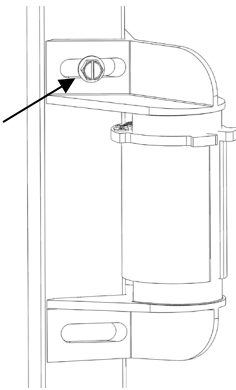

Fig. 1.3
- d. Using the provided sheet metal screws and a 5/16" nut driver, or flat head screwdriver attach the GTUs to the frame of the generator securely. (Fig. 1.3)
- f. Figure 1.3 Shows the GTU installed to a square tube frame with the rubber sleeve installed with the mouth of the sleeve facing away from the generator.